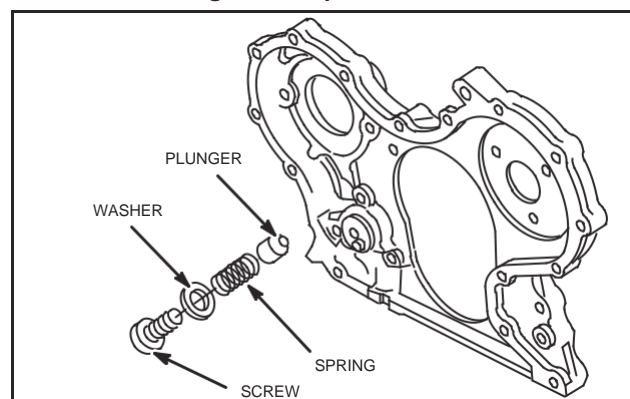

Fig. 14 – Checking Pressure Relief Valve
9. Remove and check pressure relief valve assembly, Fig. 14.